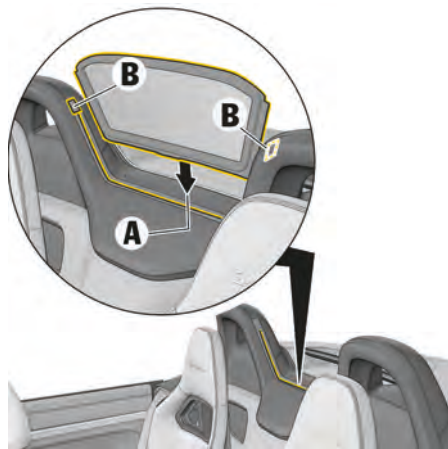

Fig. 44: Installing wind deflector
- ▶ Insert wind deflector from above into the mounting **A** (Fig. 44) and then push successively downward until the wind deflector engages audibly into place at the locking points **B** (Fig. 44).
- ▶ Press one of the locking points **B** (Fig. 44) and pull the wind deflector upward out of the mounting **A** (Fig. 44).